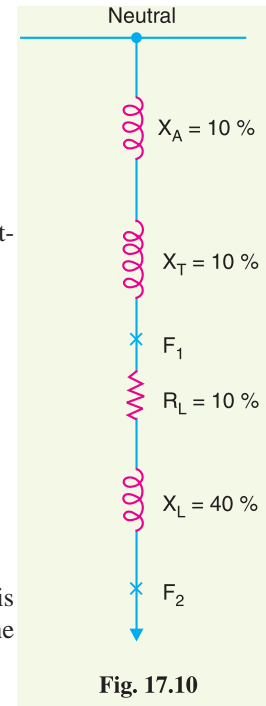

Fig. 17.10
- (i) The reactance diagram of the network on the selected base kVA is shown in Fig. 17.10. For a fault at the end of a transmission line (point F_2),